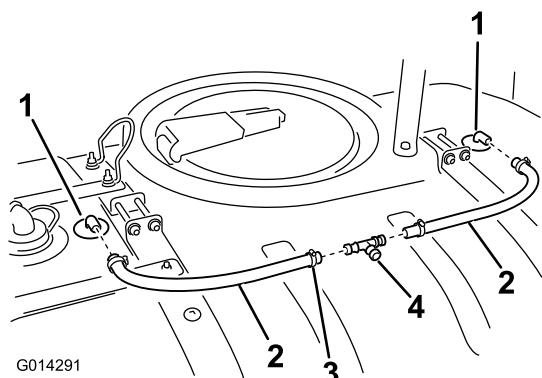

Figure 23
2. Slip a hose clamp on one end of each hose (Figure 23).
3. Clamp one end of each of the hoses onto a rinse nozzle barb (Figure 23).
3. Install the 2 in-line ends of the tee fitting to the open ends of the rinse nozzle hoses installed previously as shown in Figure 23.